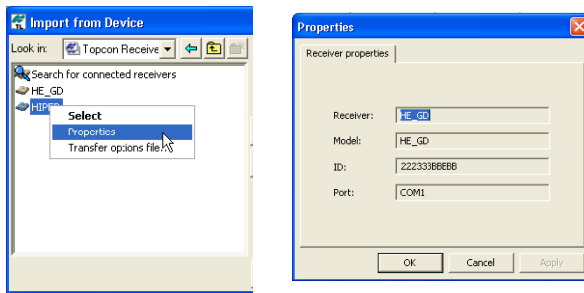

Figure 5-7. Receiver Properties
- To view information about the receiver, right-click the desired receiver and select the *Properties* option (Figure 5-7).